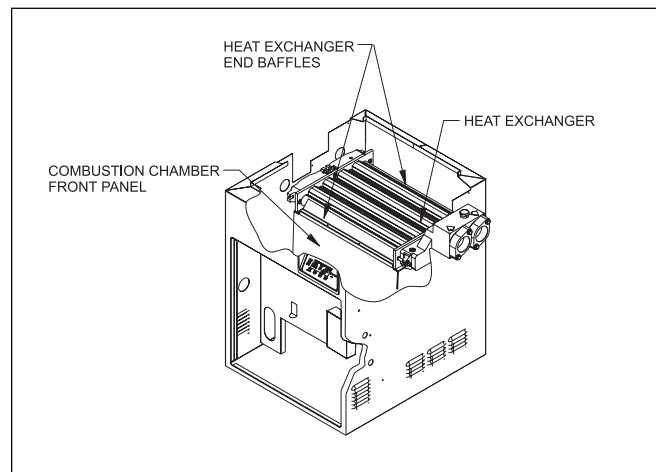

Figure 11. Heat exchanger and end baffles.
11. When removing the heat exchanger from the heater (sizes 125, 175 and 250 only), the end baffles of the heat exchanger must be removed. There are two baffles covering part of the front and rear tubes of the heat exchanger. Each baffle is held in place by two screws which mount to the top of the combustion chamber wall. Remove the screws and the baffles before attempting to lift the heat exchanger out of the heater (see Figure 11).